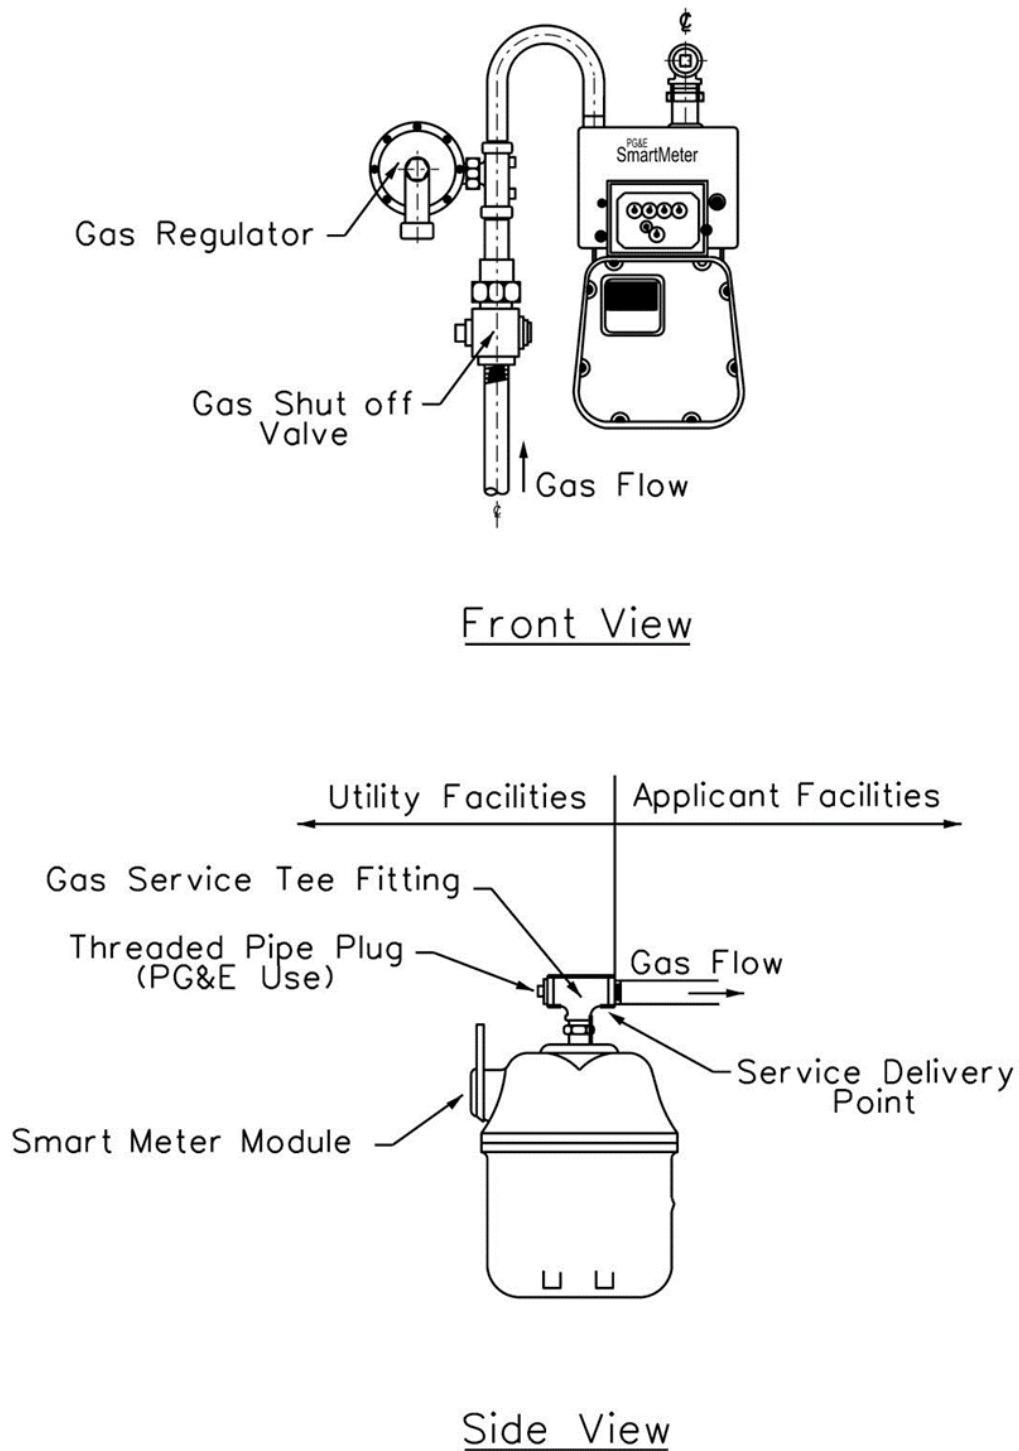

Figure 9. Typical Residential/Small Commercial Meter Set
- A. All customer-owned equipment must be installed downstream of the Company point of connection as shown in Figure 9. Customer-installed equipment may include earthquake valves, seismic shutoffs, remote monitoring equipment, or flex hoses. Any customer-installed equipment on Company facilities must be removed at the customer's expense.